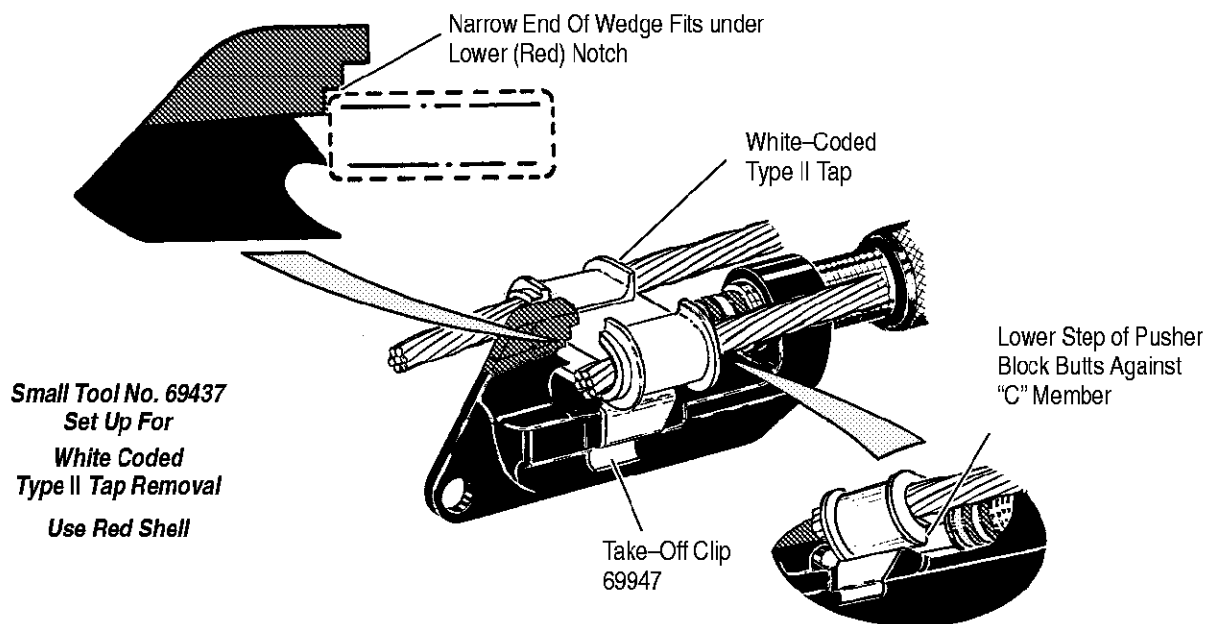

Figure 33
-  Use take-off clip No. 69947 and red shell for removal of white coded Type II taps. Narrow end of wedge fits under lower red notch of tool and lower step of pusher block butts against "C" member as shown in Figure 33.